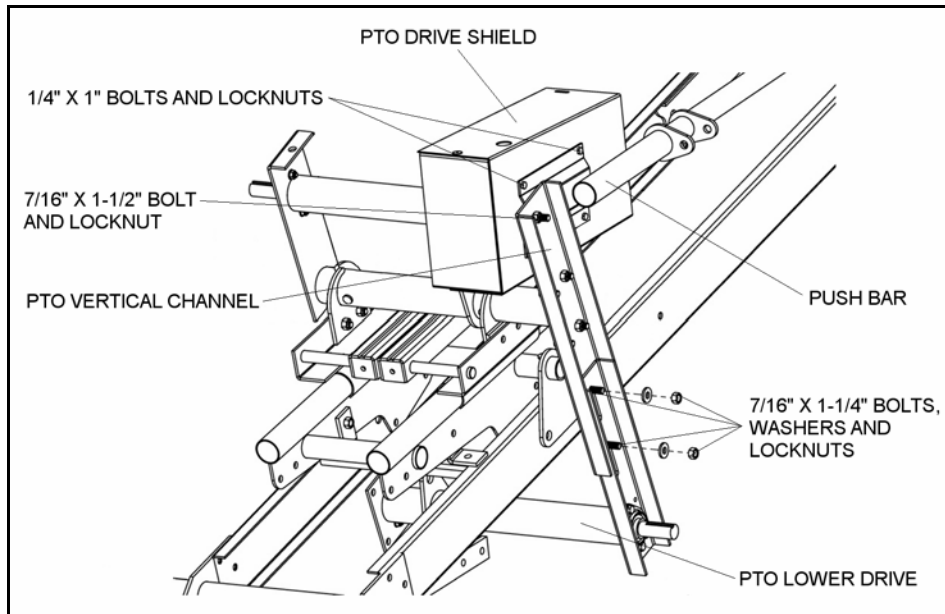

Figure 3.44
- Attach push bar to top of PTO vertical channel with one 7/16" x 1-1/2" bolt and locknut (see Figure 3.44).
- Bolt drive shield to push bar with four 1/4" x 1" bolts and locknuts (see Figure 3.44).